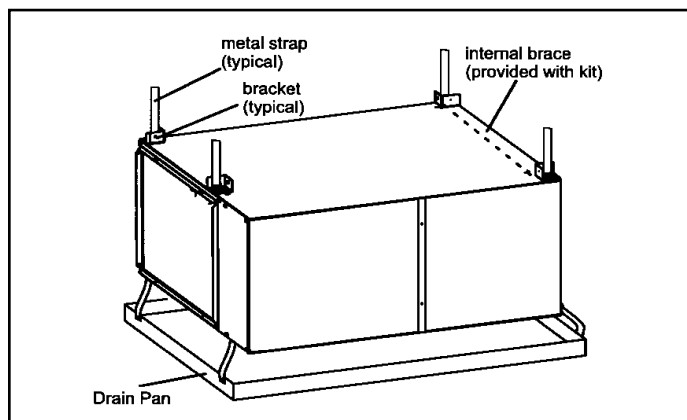
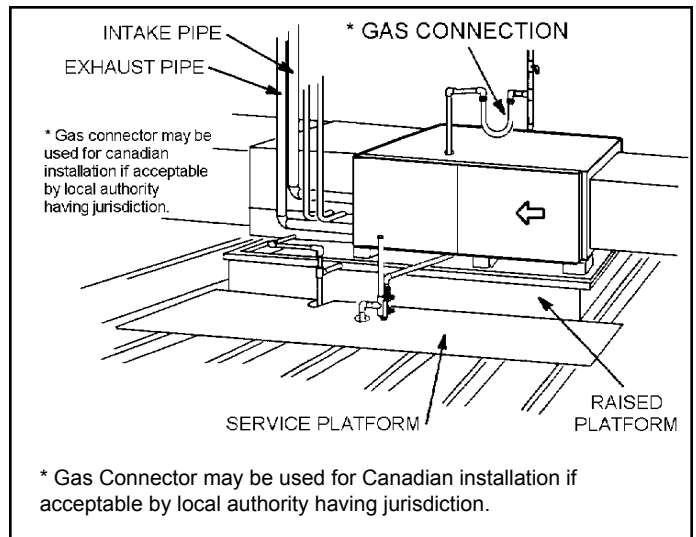

Figure 12. Typical Horizontal Application
Figure 13.
This furnace may be installed in either an attic or a crawlspace. Either suspend the furnace from roof rafters or floor joists, as shown in Figure 12 or install the furnace on a platform, as shown in Figure 13. A horizontal suspension kit (51W10) may be ordered or use equivalent.
13. Construct a raised wooden frame and cover frame with a plywood sheet. If unit is installed above finished space, fabricate an auxiliary drain pan to be installed under unit. Set unit in drain pan as shown in Figure 13. Leave 8 inches for service clearance below unit for condensate trap, unless trap is installed remotely.